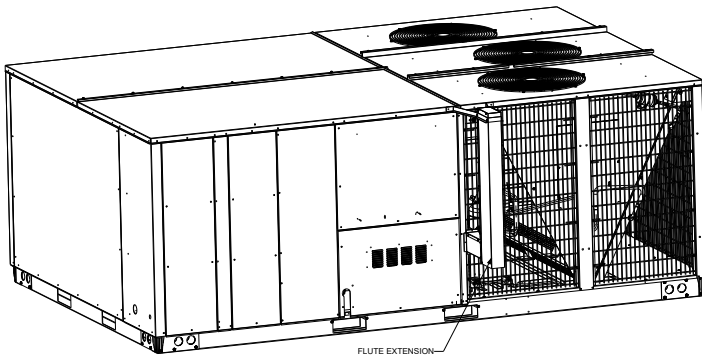

Figure 4
2. Once the Flue Extension is assembled, place the short side of the assembly over the vent outlet on the RTU and line up the top bracket with the top panel side. Refer to Figure 4.
6. See Figure 4 for full assembly.